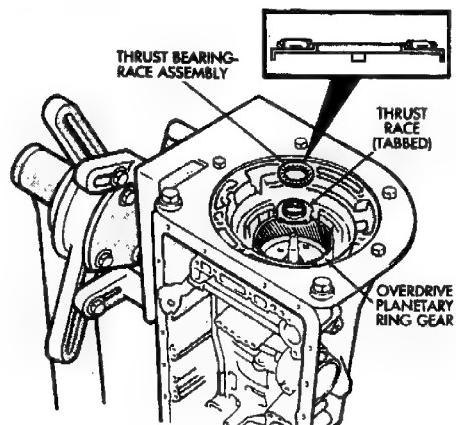
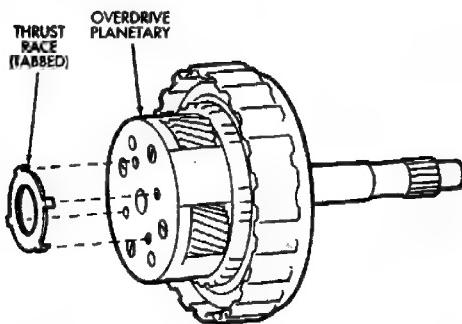

Fig. 47 Installing Ring Gear Thrust Bearing And Race
Fig. 48 Installing Planetary thrust Race
(58) Coat ring gear thrust race and thrust bearing assembly with petroleum jelly and install them in gear (Fig. 47).
(59) Verify bearing/race size before proceeding. Outer diameter of ring gear race-bearing is 47.8 mm (1.882 in); inside diameter is 24.2 mm (0.953 in). Outer diameter of bearing (61) is 46.8 mm (1.844 in); inside diameter is 26.0 mm (1.024 in).
(60) Coat tabbed thrust race with petroleum jelly and install it on planetary gear (Fig. 48). Race outer diameter is 41.8 mm (1.646 in); inside diameter is 27.1 mm (1.067 in).